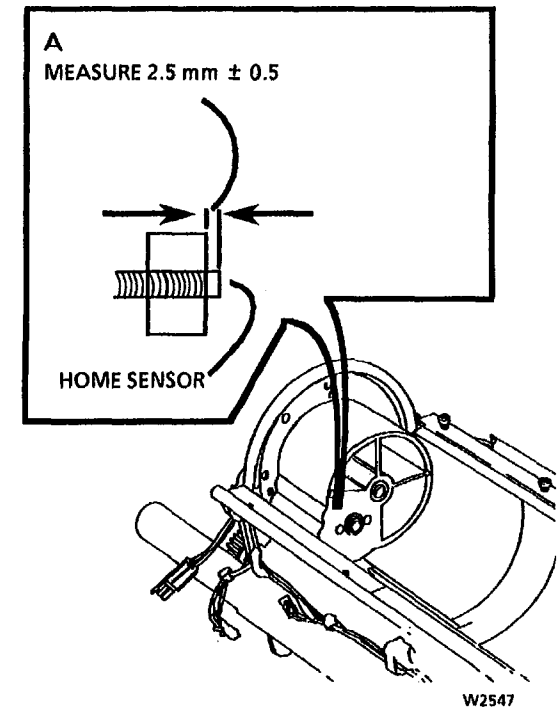

Figure 3. Check the Toner Home Sensor Adjustment
5. (Figure 3): Check the Toner Home Sensor adjustment.